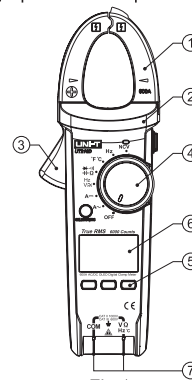

Fig.1
V. External structure (please see Fig.1)